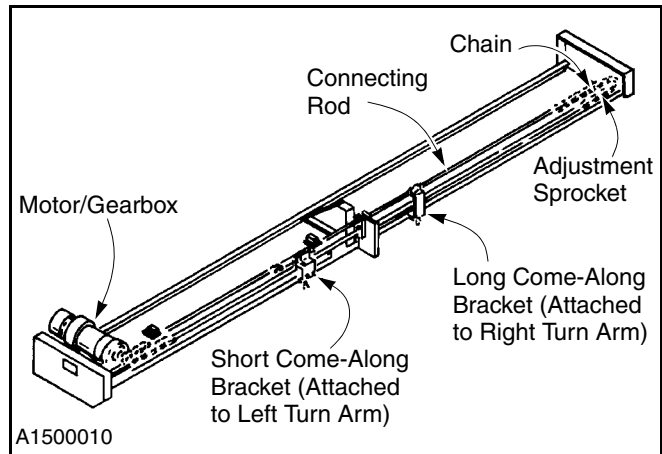

Figure 3
4. Long and short come-along brackets — secured at the upper and lower connecting rod system and turn-arm rollers. When the motor is energized, the upper and lower connecting rods are driven in opposite directions to drive the come-along brackets and turn-arm assemblies, which in turn opens or closes the door. (See Figure 3.)